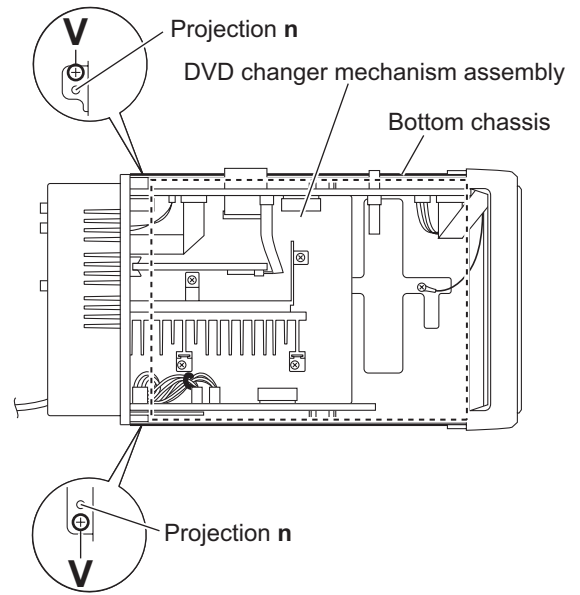

Fig.24
- (3) From the top side of the main body, remove the two screws **V** attaching the DVD changer mechanism assembly. (See Fig.24)
Align the projections **n** on the bottom chassis in the holes of the DVD changer mechanism assembly before attaching the screws **V**. (See Fig.24)